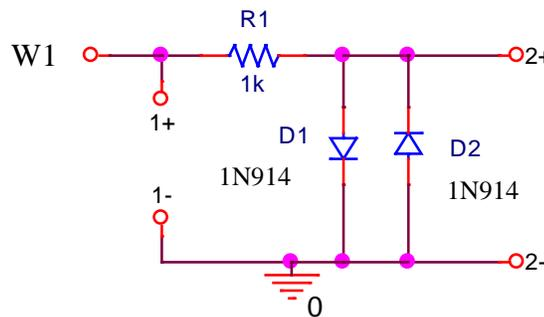

**Figure B-9.**
- **B.7** Create the circuit shown in Figure B-9 in LTspice: